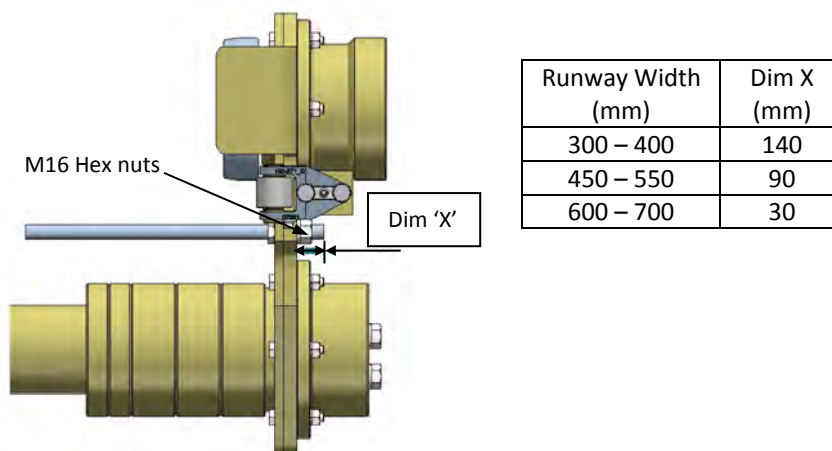

Figure 24 – Safety Bar Position
- Adjust all the trolley safety bars for the runway flange width as Figure 24 below. The safety bar is to give support to the Trolley Plate Assembly upon fitting to the hoist.
- Remove the safety bars (8) from both trolley plate assemblies, release M16 nuts and unscrew, see Figure 24.